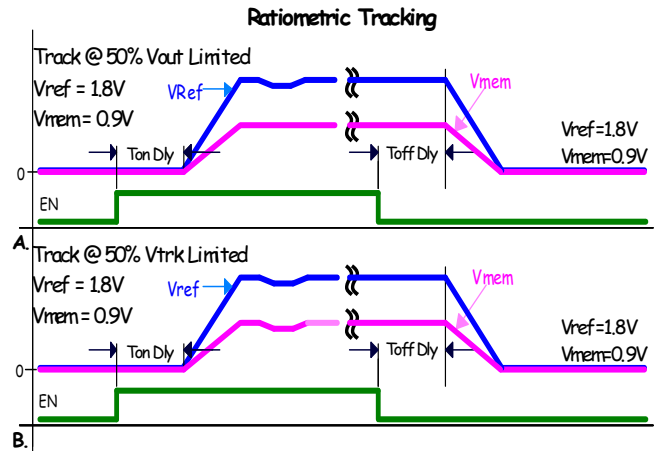

FIGURE 23. RATIOMETRIC TRACKING
- Track at 50%  $V_{OUT}$  limited. Member rail tracks the reference rail and stops when the member reaches 50% of the target voltage Figure 23 (A).
- Track at 50% VTRK limited. Member rail tracks the reference at the instantaneous voltage value applied to the VTRK pin until the member rail reaches 50% of the reference rail voltage, or if the member is configured to less than 50% of the reference the member will achieve its configured target Figure 23 (B).
**TABLE 13. TRACKING CONFIGURATION (Figure 23 (A))**
**TABLE 14. TRACKING CONFIGURATION (Figure 23 (B))**